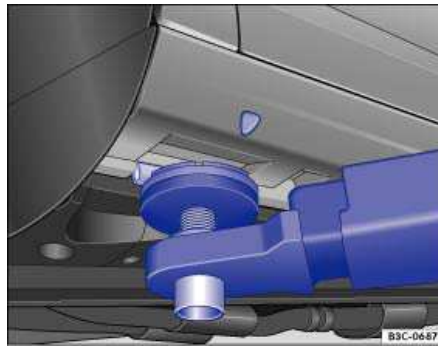
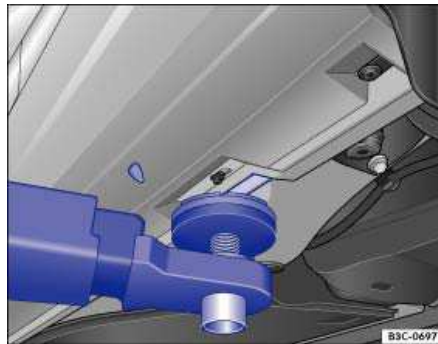

Fig. 173 Front lift point for workshop hoist or floor jack.
Fig. 174 Rear lift point for workshop hoist or floor jack.
The vehicle may only be raised at the lift points shown in illustrations ⇒ fig. 173 and ⇒ fig. 174. If the vehicle is lifted at different points, vehicle damage ⇒ ⚠ and serious injuries may occur ⇒ ⚠.
- ☐ Always lift your vehicle only at the designated lift points shown in the illustrations ⇒ fig. 173 and ⇒ fig. 174. Not using the designated lift points can cause the vehicle to fall off the floor jack when heavy parts such as the engine or transmission are removed.